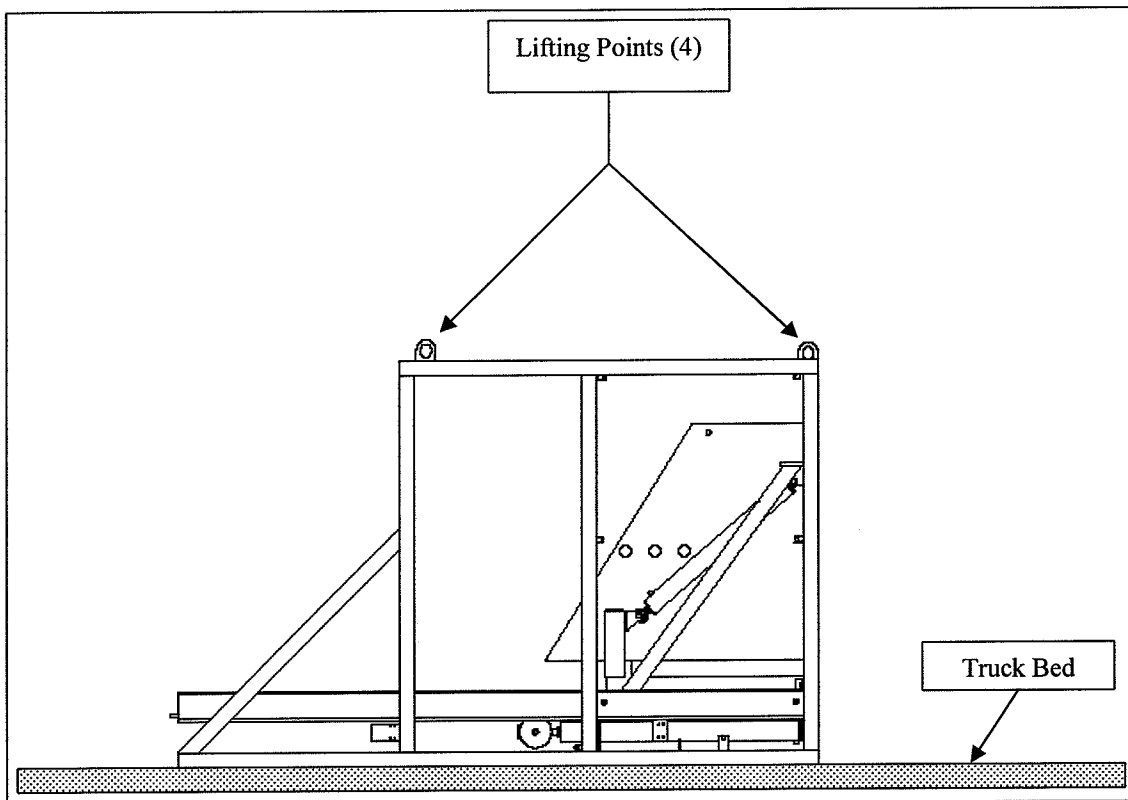

Fig. 1
2. There are four (4) lifting points on the unit. (See Figure 1) The unit must be lifted from these points.
1. Move the unit to its usage area using all four (4) lifting points as show on page P 4-1, figure 1. A forklift may be used but fork extensions that span the width of the unit are required.